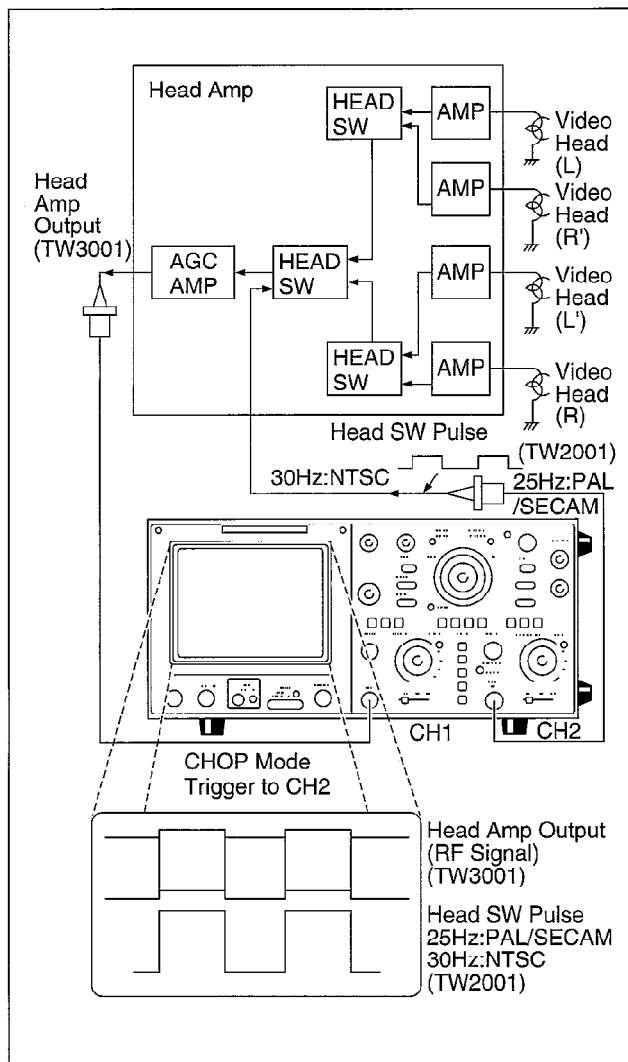

Fig. M6 Connect of Oscilloscope
(1) Connect the oscilloscope to the output of the Head Amp as shown in Fig. M6.
NOTE: To get a stable waveform of the Head Amp output (observation point TW3001 and TW2001 located on Main C.B.A.) on the oscilloscope, use the head switching pulse as a triggering signal as shown in Fig. M6.
- (1) Connect the oscilloscope to the output of the Head Amp as shown in Fig. M6.
- (2) Playback the Alignment Tape.
- (3) Make sure that the condition of the wrinkle at P4 Post. If the condition of the wrinkle is out of specification, P4 Post adjustment has to be performed as follows.